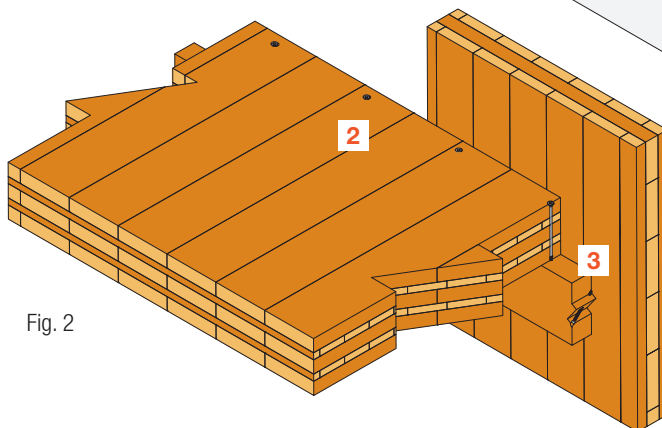

Fig. 2
- Timber substrate: preferably use timber screws, such as **ESCR**, **ESCRC**, **ESCRFTC**, **ESCRFTZ** and **SWD** (fig. 2).